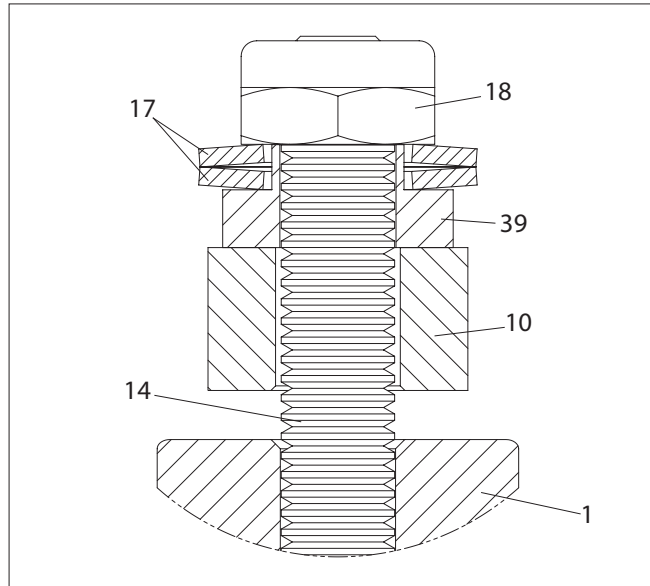
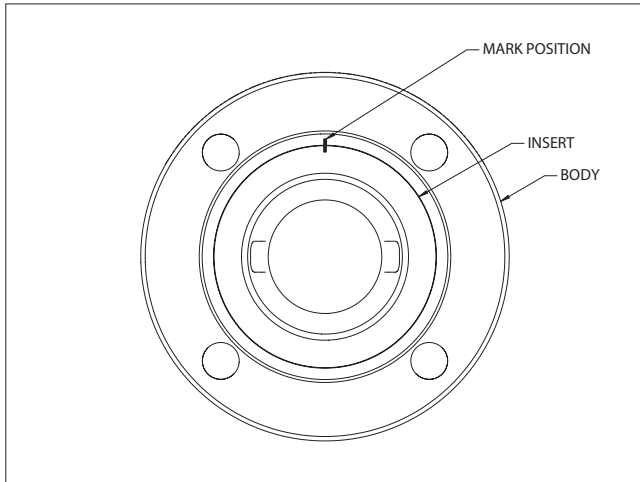

Figure 5.
Figure 6.
9. Place the stop bushings (39) and disc springs (17) over the studs (14) as shown in **Figure 5**. Disc spring and stop bushing orientation shall be as shown in **Figure 5** and **9**.
10. Place the stud nuts (18) on the studs (14).
11. While pressing the stem (5) outward from inside the body, tighten stud nuts (18) to the torque shown in (**Table 1**). Apply torque evenly, alternating between the two nuts so that the compression plate will be parallel with the valve body. Rotate the stem gently to assure proper seating.
12. Make sure there is no dirt and grit in the insert (2) threads. Apply a lubricant compatible with the flowing media to the threads and screw the insert (2) into the body (1) by hand until it is fully seated. Mark the position as shown in (**Figure 6**). Counting the number of turns, remove the insert.